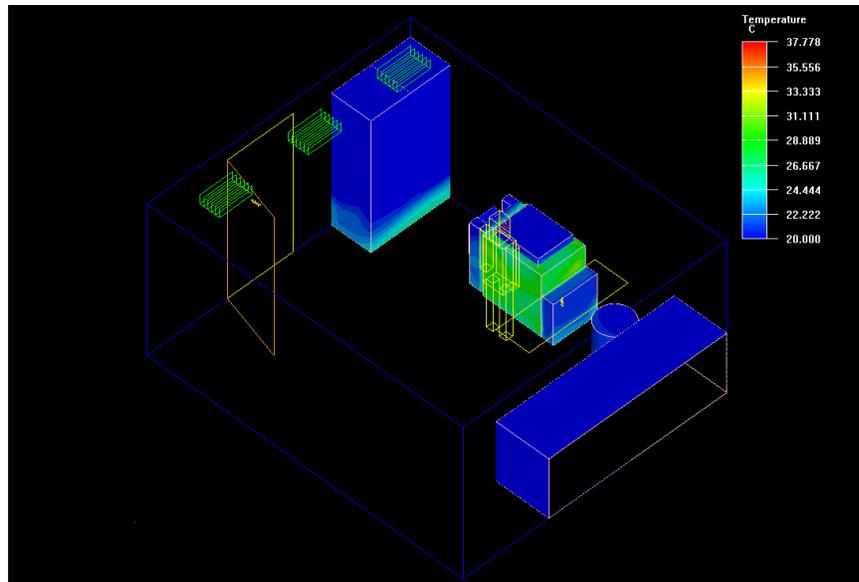

Figure 3.13: Temperature Contours on the Surfaces of Blocks in the Room
*The temperature contour plot will be updated to show the new legend precision, as shown in Figure 3.13.*